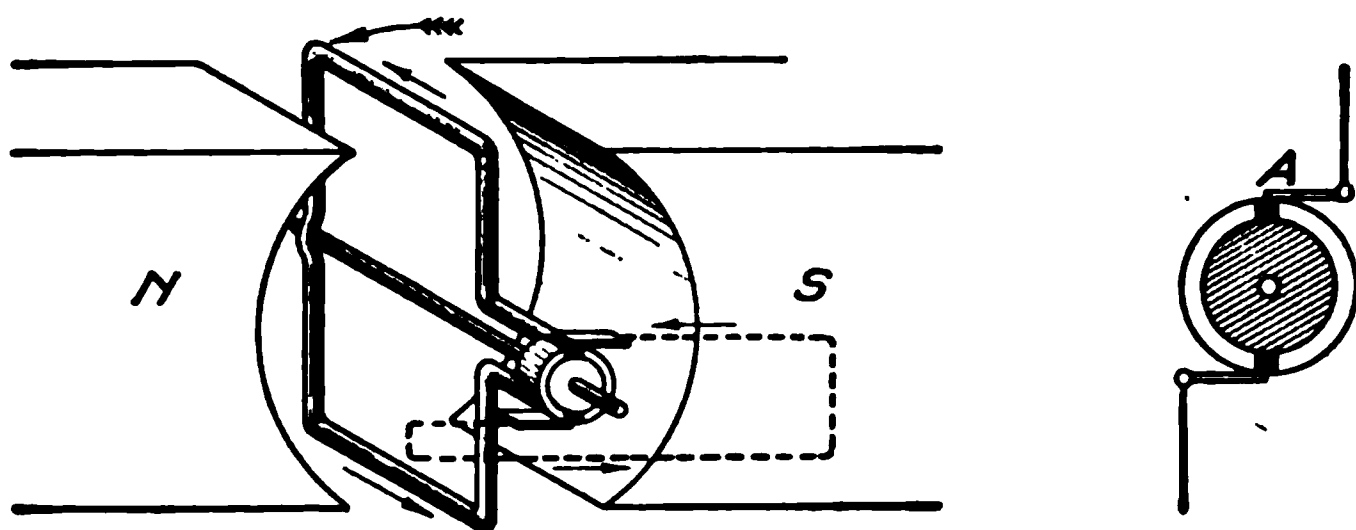
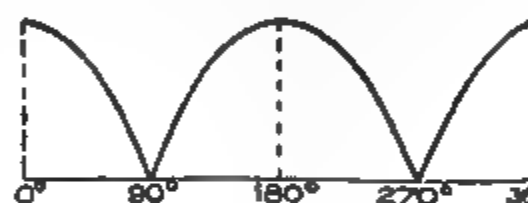

Fig. 19. Simple Form of Generator Showing Arrangement of Brushes in Contact with Commutator
Fig. 21. E. M. F. Curve with Commutator
**Commutators.** Fig. 19 illustrates a commutator in its simplest form. It may be imagined as consisting of a small brass tube which has been sawed in two longitudinally, the halves being mounted
on a wooden rod. The wood and the two cuts in the tube insulate the halves from each other. Each one of these halves is connected to one terminal of the loop, as shown in the illustration, Fig. 19. Against this commutator, Fig. 19, two brushes bear at opposite points and lead the current due to the generated e.m.f. to the external circuit. If these brushes are so set that each half of the split tube moves out of contact with one brush and into contact with another at the instant when the loop is passing through the positions where the rate of cutting is minimum (as indicated in the enlarged end view of the commutator shown at A), a unidirectional current will be produced, but it will be of the pulsating character as indicated by the curve for one cycle shown in Fig. 21.